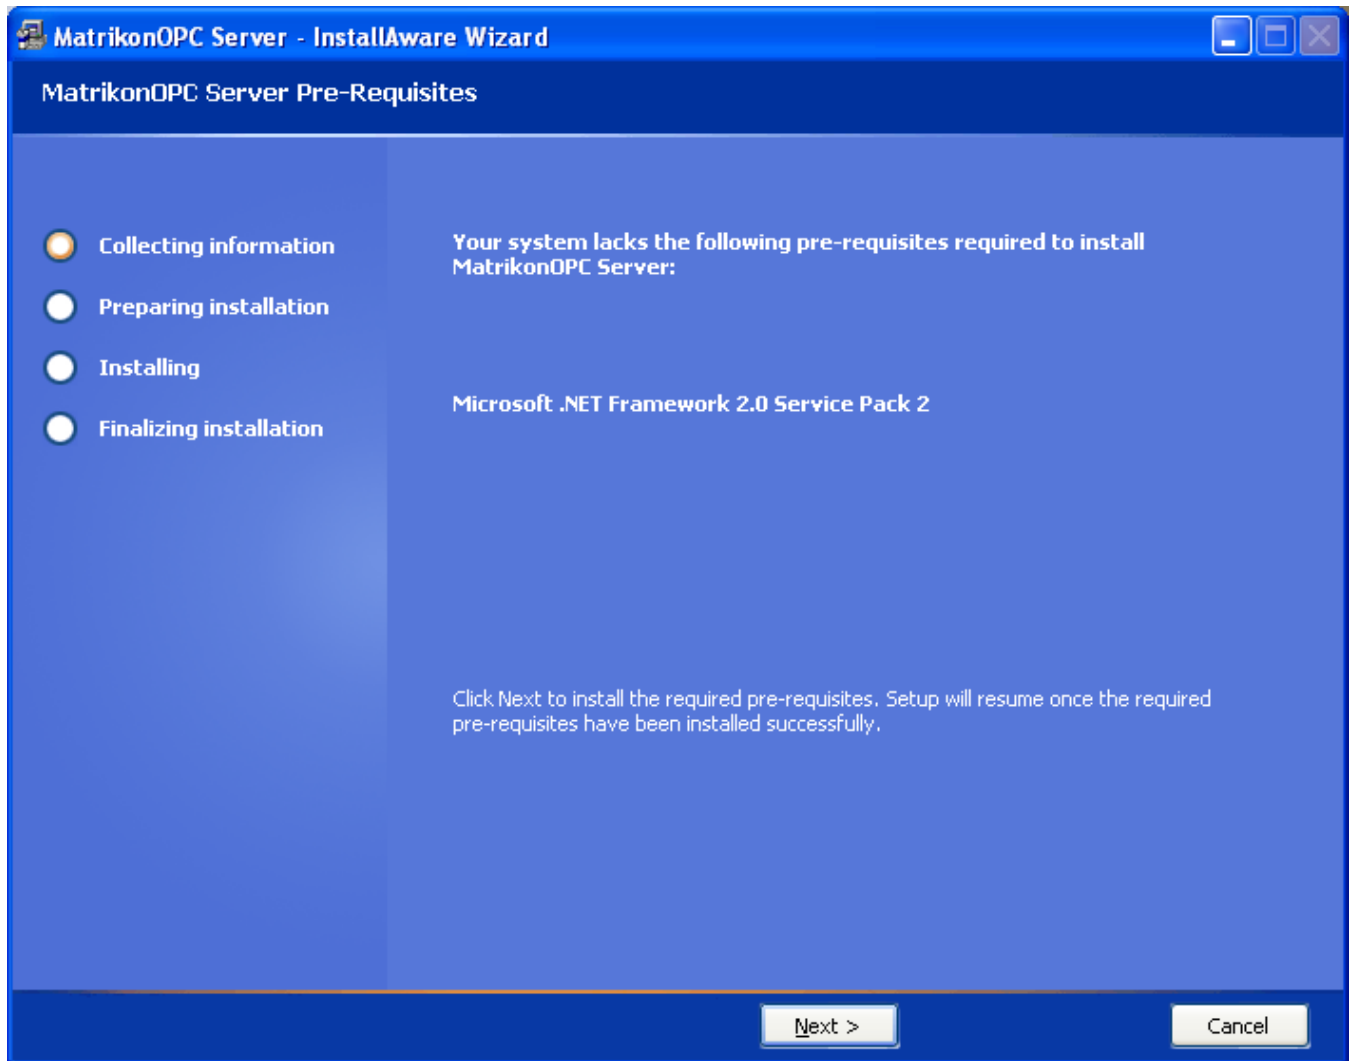
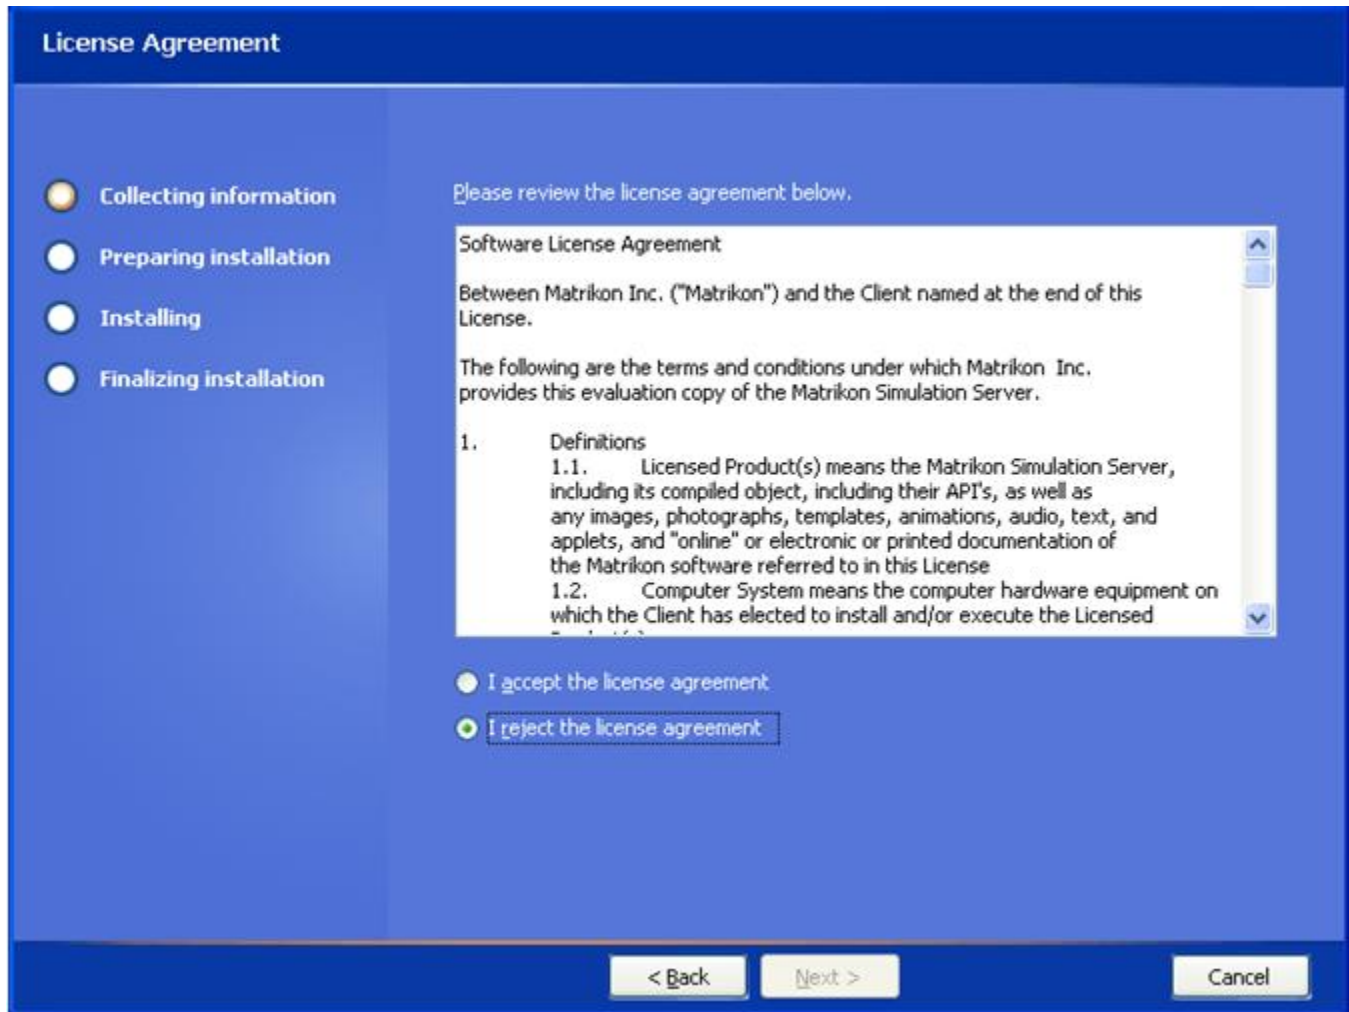

Figure 63 - Pre-Requisites Screen
Figure 64 - License Agreement Screen
3. Either a **Pre-Requisites** screen (Figure 63) appears, or you are taken directly to the **Licensing Agreement** (Figure 64) screen. If the **Licensing Agreement** screen is the displayed screen, go to step 5.
5. After all pre-requisites have been installed, the **License Agreement** screen (Figure 64) appears.